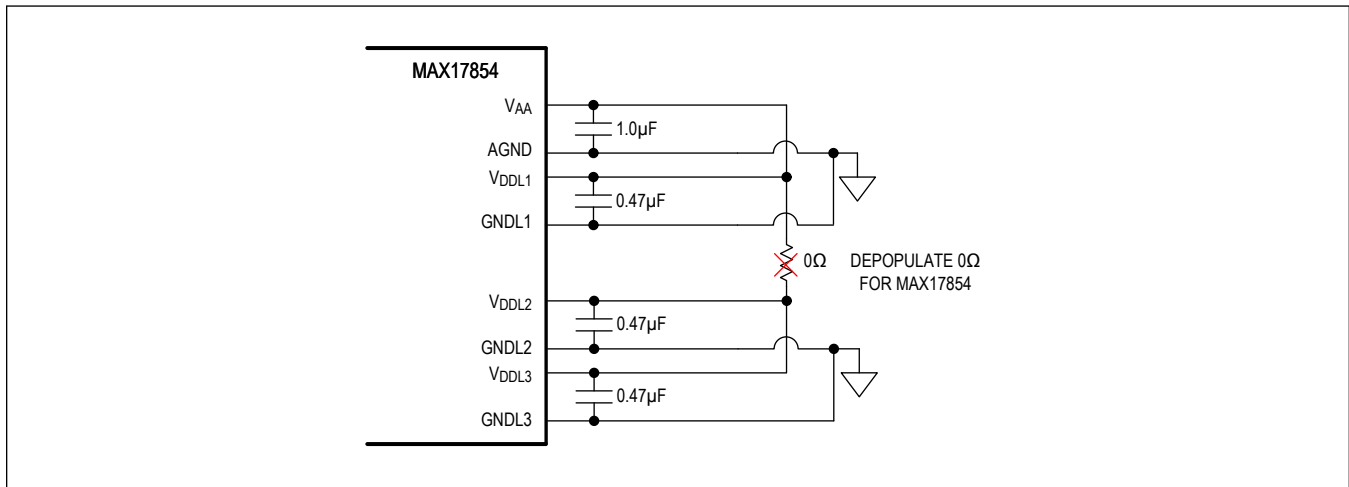

Figure 114. MAX17853 to MAX17854 Hardware Change
While migrating the solution from the MAX17853 to MAX17854, one hardware change is required. On the MAX17853 evaluation (EV) kit, the V_{AA} output is tied to V_{DDL2} and V_{DDL3} through an external resistor. Since the MAX17854 has two regulators, this connection needs to be removed, hence the external resistor needs to be depopulated on EV kit to make the hardware to be used for the MAX17854, as shown in the Figure 114. A similar change to this effect would be required for any user-defined hardware.